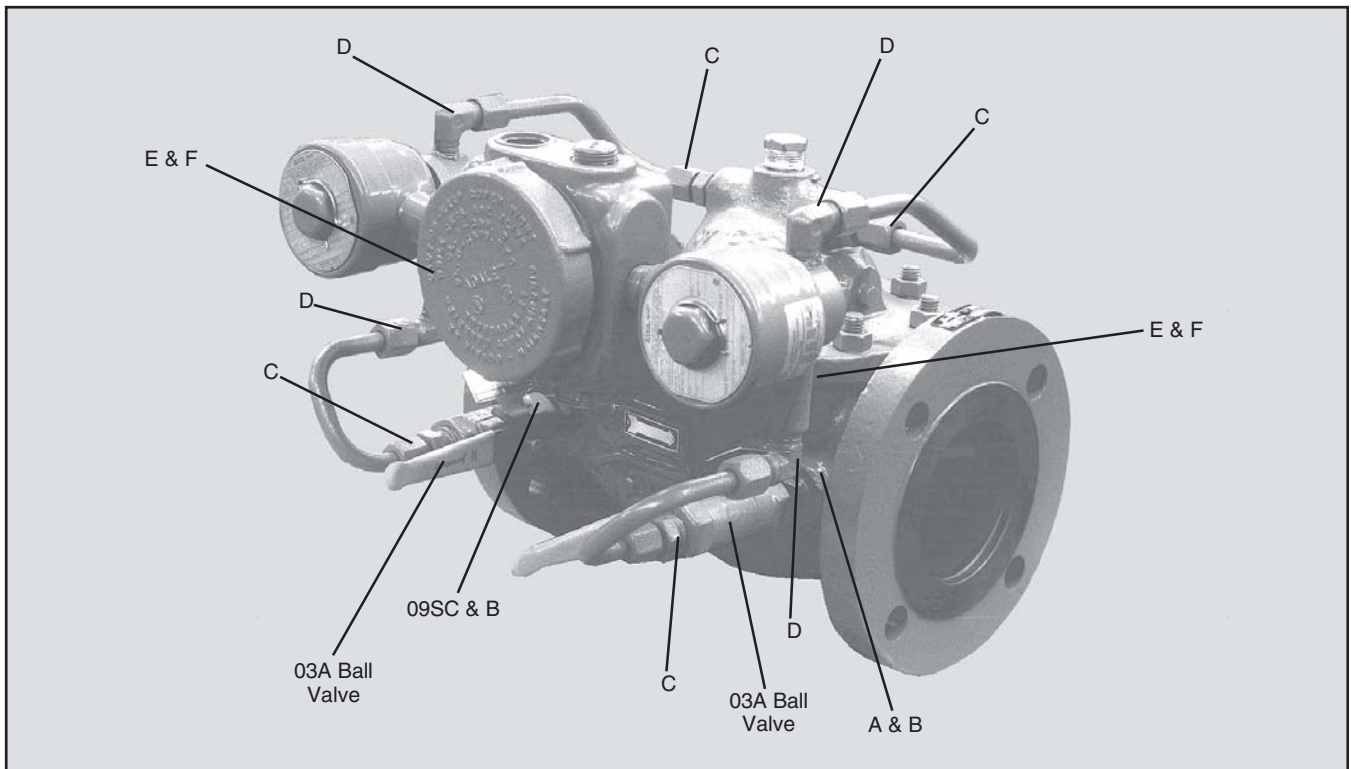

Figure 1 — Valve Conversion to Model 210 - Sizes 3" and 4"
7. Secure the cover and the junction box bracket to the body with the nuts. See Figures 1 and 3.
8. Assemble the proper fittings to the solenoids. See Figures 1 and 3 and the material lists.
Note: Position the solenoid valves with respect to the junction box as shown in Figures 1 and 3.
11. Attach the remaining strainer, fittings, and ball valves to the valve. See Figures 1 and 3 and material lists.
12. Cut and bend the tubing to fit the plumbing arrangement. See Figures 1 and 3.